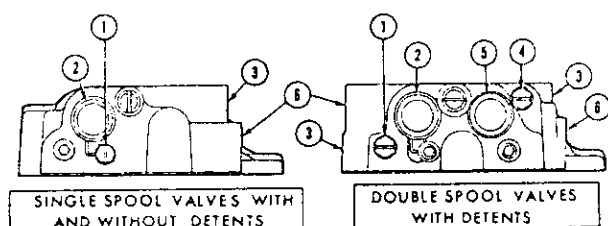

Fig. 436—View showing front side of single and double spool remote control valves.
385. Exploded views of single and double spool remote control valves with spool detents are shown in Figs. 434 and 435. Except for the detent assemblies (items 24 through 28), remote control valves are the same. Either control valve can be used to operate single or double acting cylinders. Refer to Fig. 436 and Table A.
Table A—Refer to Fig. 436 for float valve and by-pass valve locations and to above table for cylinder application, valve settings and hose installation. The inboard spool of the double spool control valve without detents is always double acting and cannot be converted to single acting operation. N/A—Does Not Apply.